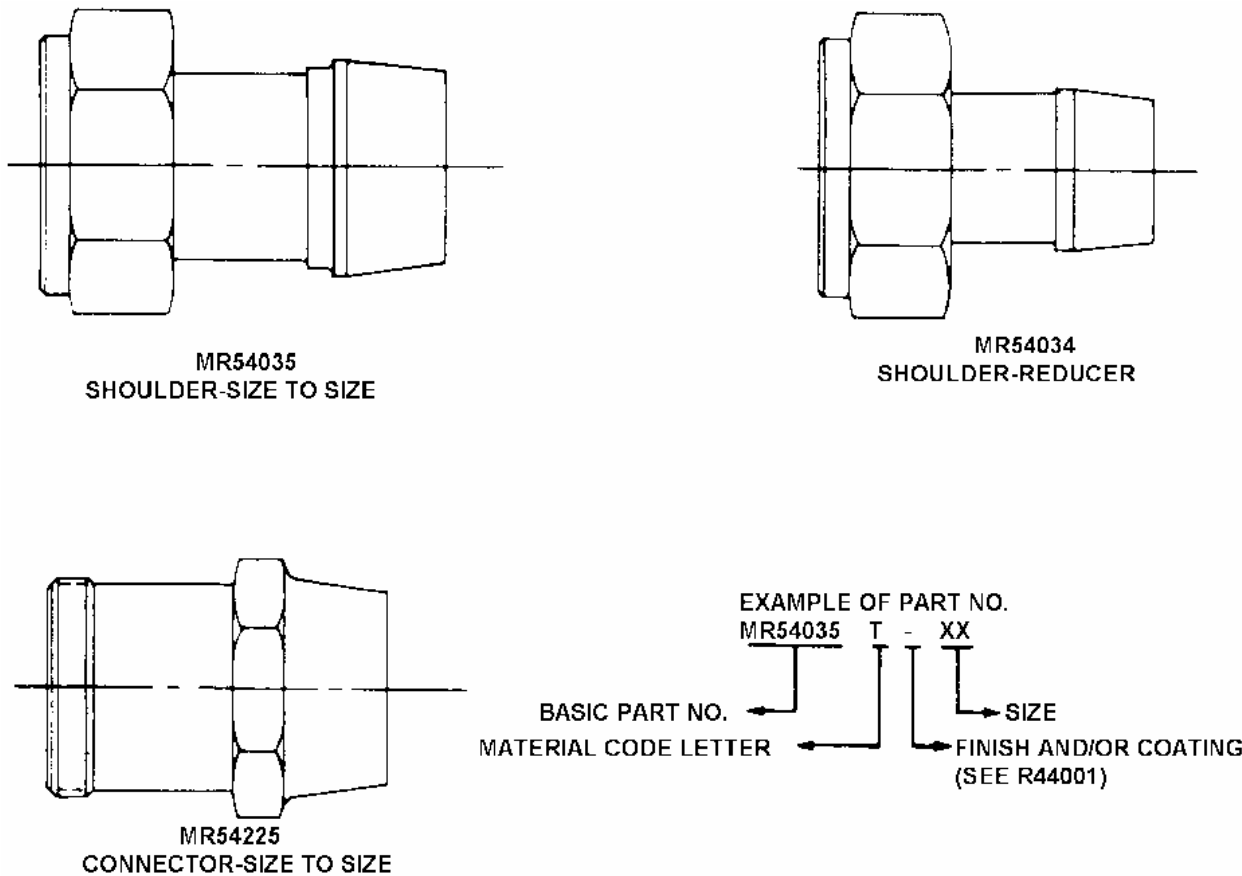

Figure 13. Dynatube Repair Fittings
Insertion depth of tube expander into tubing is determined by dimension E (Figure 13). To measure expander insertion depth, proceed as follows:
a. Replacing Dynatube fittings on existing tubing by using longer length Dynatube fittings (Figures 13, 14 and Table 4).